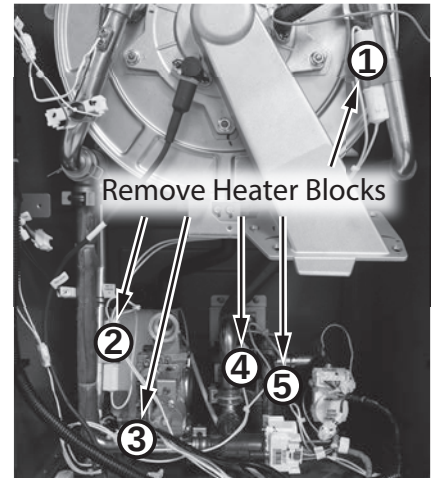

Figure 32 - Remove remaining heater blocks
- 15** Locate the five (5) remaining heater blocks attached to pipe connections as shown in Figure 32. Note the path of wires for ease of installation of new assembly. Remove brackets securing heater blocks to pipe connections. Place brackets aside in a safe place for reinstallation.